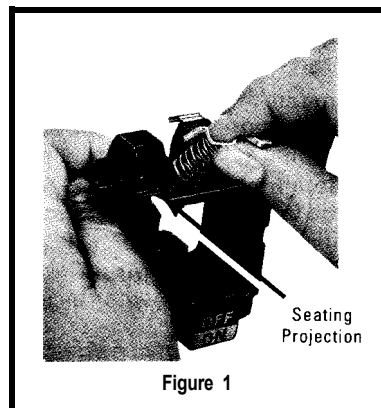

Figure 1
1. Remove the movable contact (item 9) by depressing the contact spring (item 10) and pushing the contact out to either side. The contact spring will fall free or can be lifted out.
2. Hold the replacement spring and contact in one hand as shown in Figure 1.